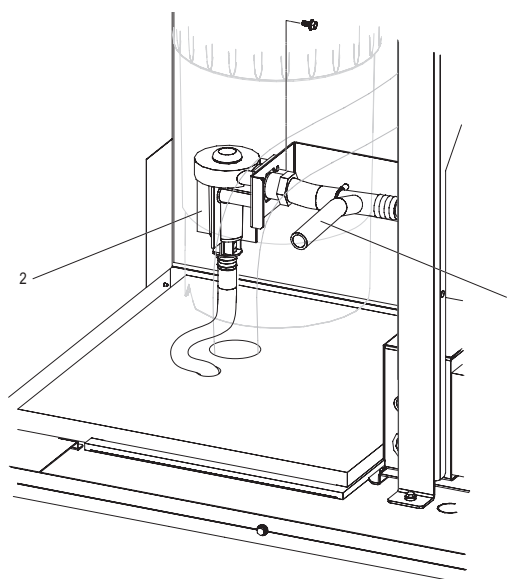

Figure 19: Drain Hose Connection – Condair RS-OC with Scale Tank
**Note:** The procedure for removing the steam cylinder is the same as on the indoor units, except for the following – **use the full drain valve (optional) or manual drain hose (connected to the drain valve of the scale tank) and drain the tank.** Then disconnect the freeze protection drain hose connection (refer to Figure 19) and remove the tank. The steam cylinder can now be removed for cleaning.